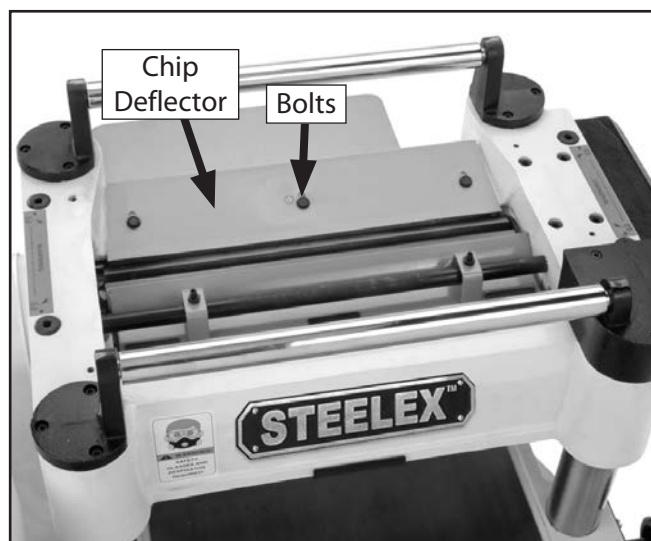

Figure 64. Chip deflector.
3. Use cutterhead pulley to rotate cutterhead until a knife/insert reaches closest distance to chip deflector (see **Figure 64**), then measure distance between knife/insert and chip deflector.